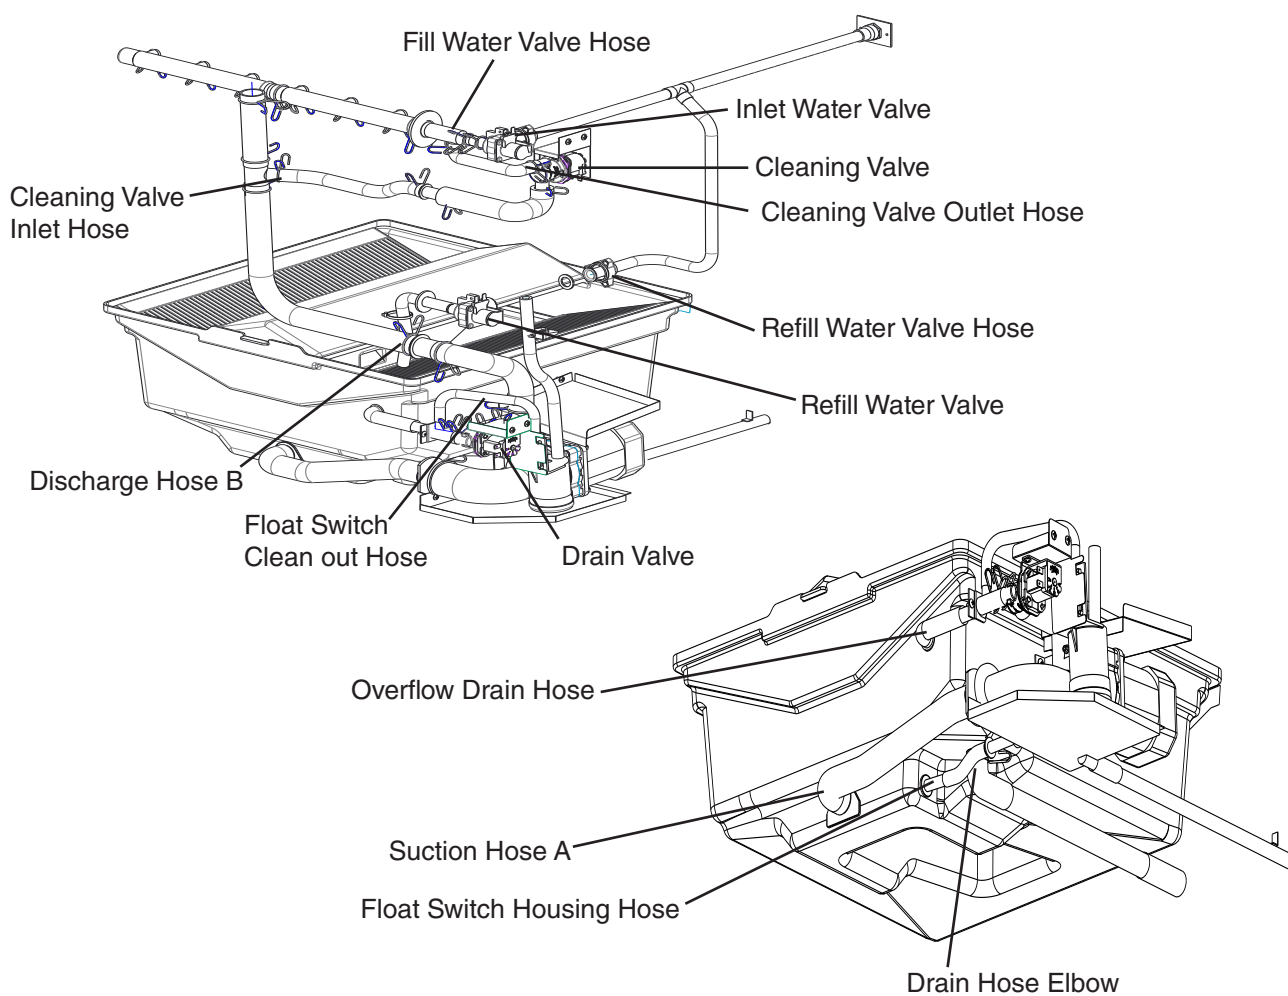

Fig. 21
- 10) Disconnect the cleaning valve outlet hose from the cleaning valve and the inlet water valve tee and empty any water from the hose. See Fig. 21. Replace and secure the cleaning valve outlet hose in its correct position.
- 11) Remove the front insulation panel, then remove the cleaning valve inlet hose from the tee in the evaporator section and let drain. See Fig. 21. Replace and secure after the cleaning valve inlet hose has drained. Next, remove discharge hose B and let drain. See Fig. 21. Replace and secure discharge hose B after draining.
- 12) Remove the refill inlet water valve pipe and let drain. After draining replace the refill inlet water valve pipe. See Fig. 21.